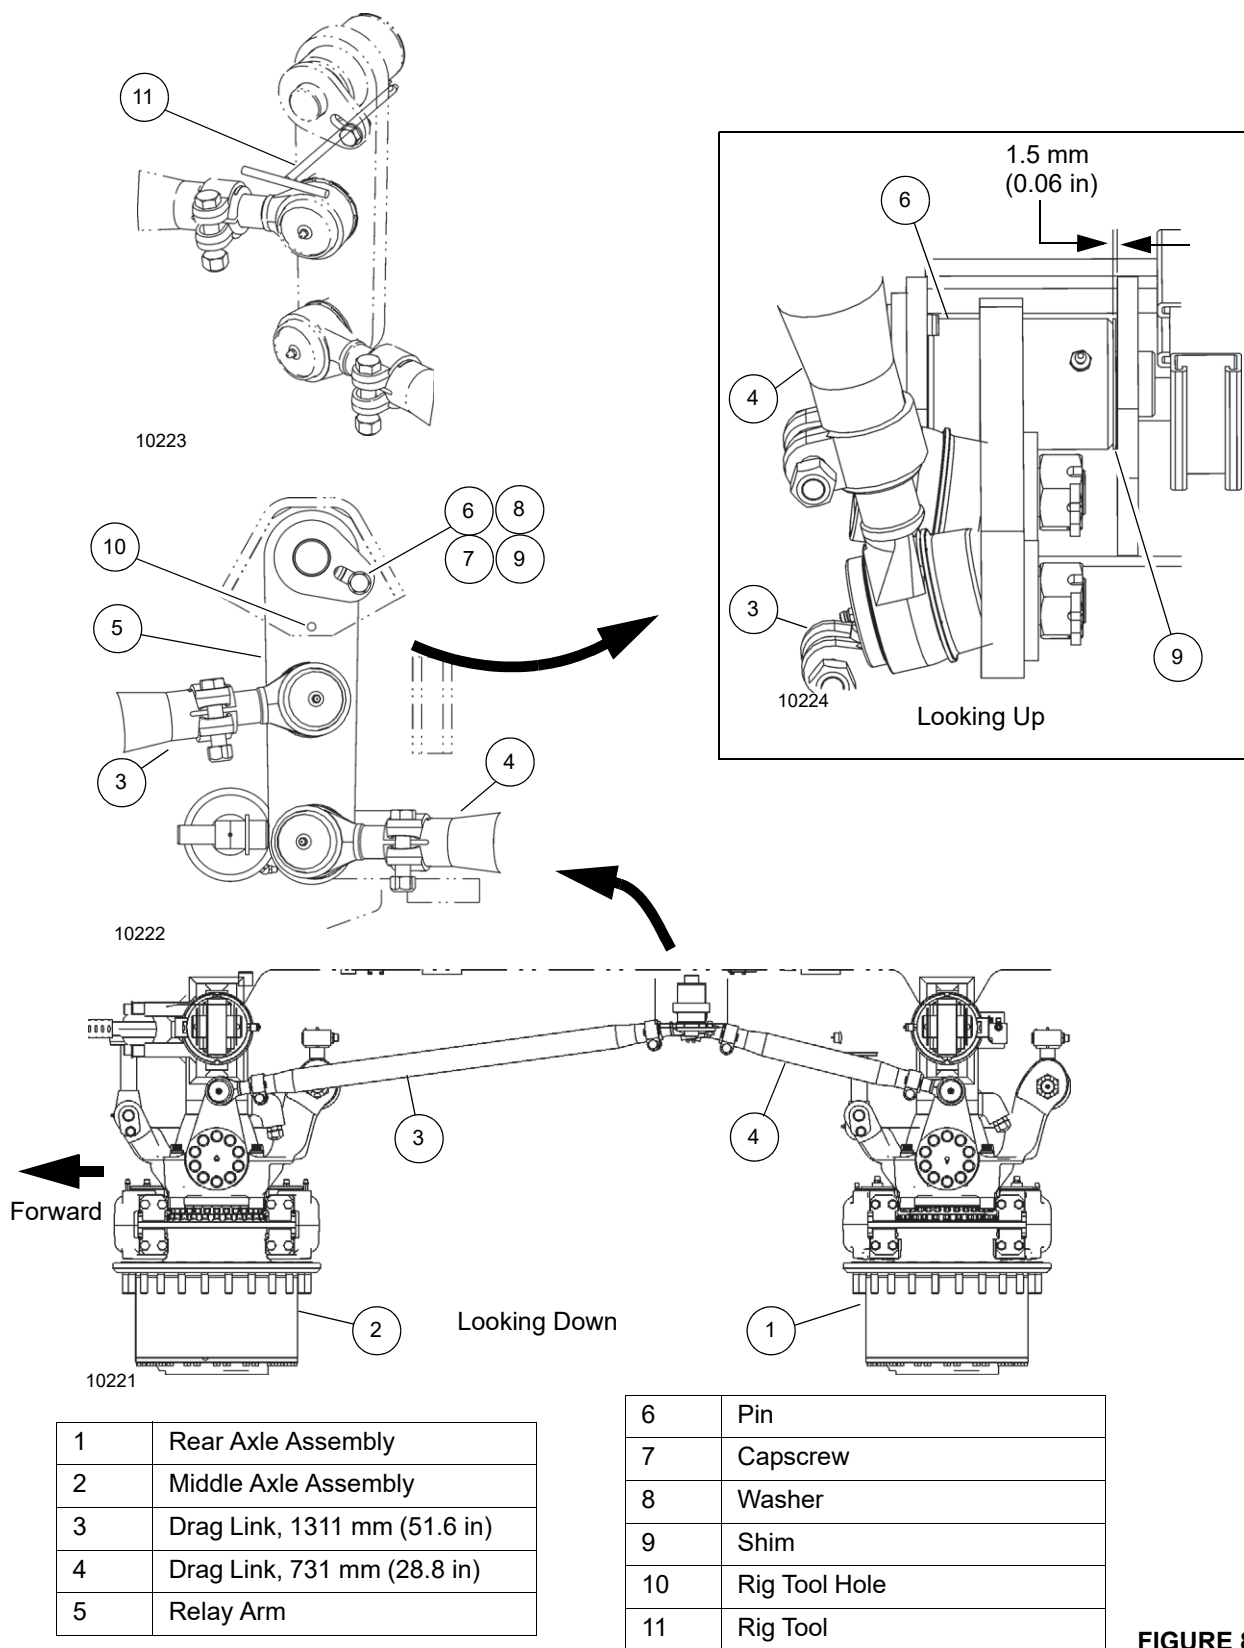

FIGURE 8-5
5. Install relay arm (5, Figure 8-5) and pin (6) with capscrew and washer. Add shims (9) as necessary to